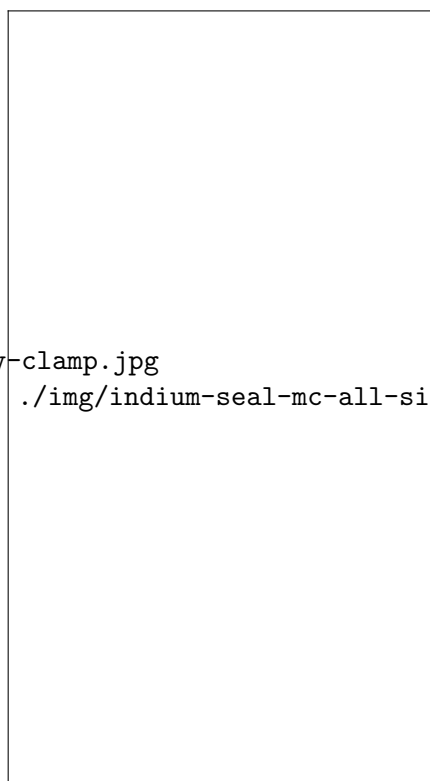

Figure 5.18: All six nuts and machine screws are supporting the weight of the hanging MC.
10. Remove the clamp and turn the remaining four screws 2 turns each. For the MC, remove the chemistry clamp so the setup looks like Figure 5.18.